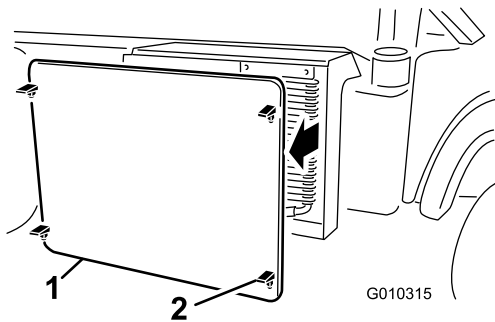

Figure 50
5. Unlatch and remove the radiator screen from the front of the radiator (Figure 50).